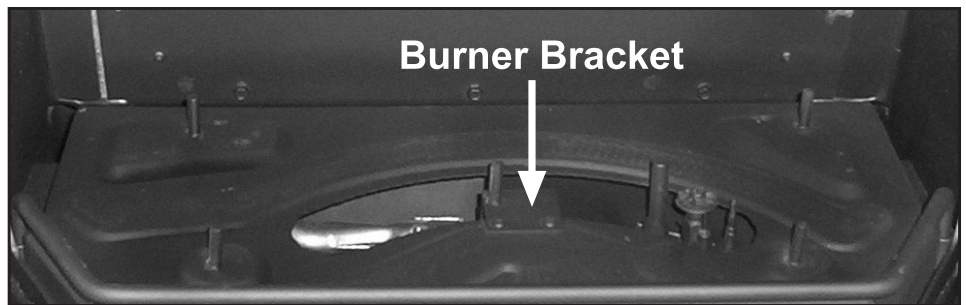

Figure 7: Blower (Fan) Removal.
2. Remove the two (2) T-20 screws that fasten the lower half of the burner bracket to the burner tray, located inside the large hole in the burner (see Figure 7). Do not remove the screws that fasten the upper half of the burner bracket to the burner.